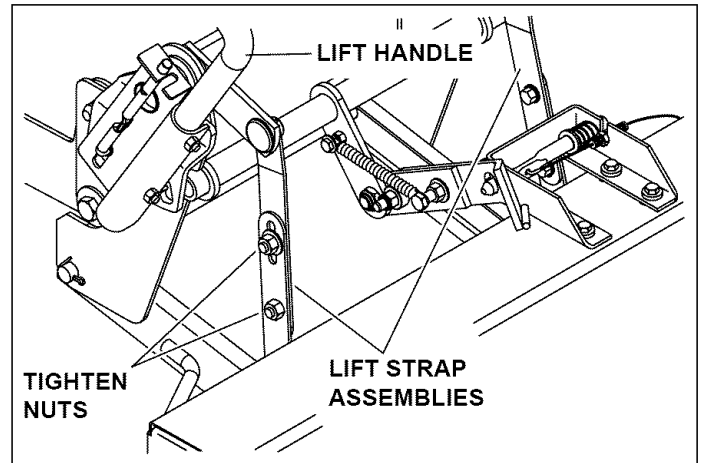

FIGURE 23
- Make sure the nuts and bolts in the lift straps are loose enough to turn by hand. Stand on the right side of the scoop and **hold the lift handle as far forward as it will go** while you tighten one of the nuts in the lift straps. You can let go of the lift handle to tighten the other three nuts in the lift straps. See figure 23.